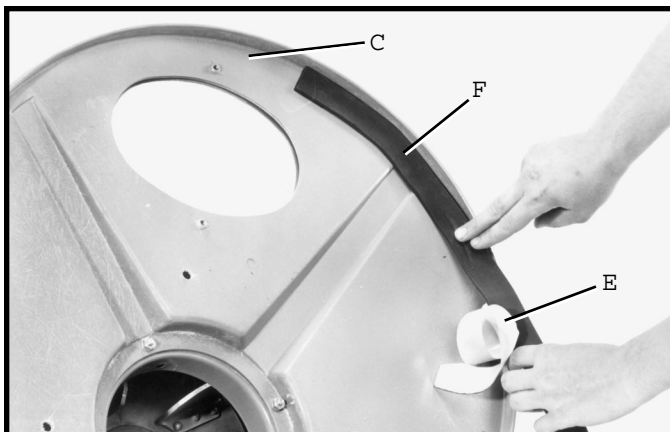

Fig. 5
3 Peel the adhesive paper (E) Fig. 5, from the back of the gasket material (F) and press the gasket material around the underside of the dust collector cover (C). Cut off any excess gasket material.